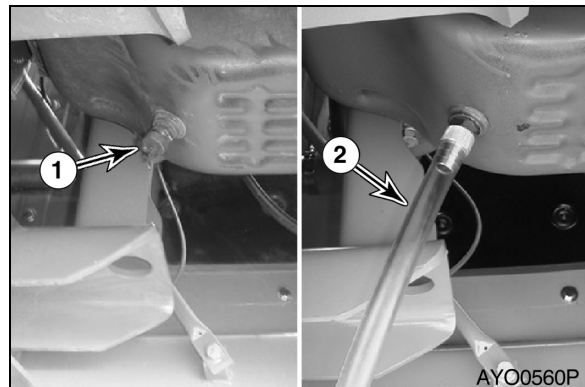

Figure 47
1. Position a larger container under the engine. Remove cap (1, Figure 47) and install hose (2) to drain the engine oil. Remove hose (2) and install cap (1).